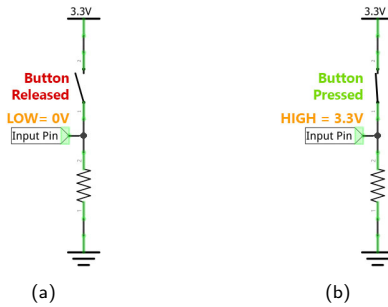

Figure 3.1. Active-high button circuit: (a) Button released, input pin receives a logical low; (b) Button pressed, input pin receives a logical high.
- **Active-high:** the active-high button circuit is shown in Figure 3.1. In this circuit, the GND is connected to an input pin through a resistor, so there is no current flows to the input pin. Therefore, it receives a logical low. When the button is pressed,